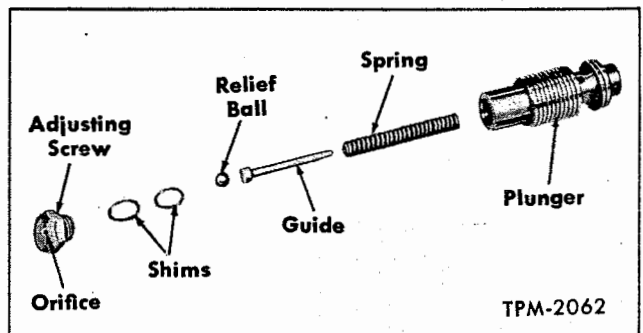

Figure 24—Flow Control Valve
14. Using needle nose pliers, remove snap ring (1) from pump body (35).
15. Pull drive shaft outer bearing (2) and drive shaft (3) from pump body (35). It may be necessary to tap on end of drive shaft with plastic hammer to facilitate removal.
16. If inspection indicates necessity for removal of bearing oil seal (4) and drive shaft inner bearing (36), drive seal out of pump body with punch and hammer; then using care to avoid damage to inner surface of pump body, remove inner bearing from pump body by tapping out lightly with hammer and brass drift.
17. Remove drive shaft key (37) from slot in rotor drive shaft (3).
18. If inspection indicates necessity for replacement of outer bearing (2), press bearing off drive shaft (3) using a 1" I.D. sleeve.
19. If flow control valve assembly (fig. 24) is to be disassembled for inspection or cleaning purposes, maintain pressure on spring loaded plug to prevent loss of poppet relief ball. Be careful not to score ground surfaces of flow control valve.
1. If flow control valve assembly (fig. 24) has been disassembled, assemble parts, making sure same number of shims are installed as were removed. These shims control pressure at which relief valve opens to 950-1000 psi pressure. Tighten relief adjusting screw to 80-100 in. lbs. torque.
2. If drive shaft outer bearing (2) was removed from drive shaft (3), press bearing on shaft,